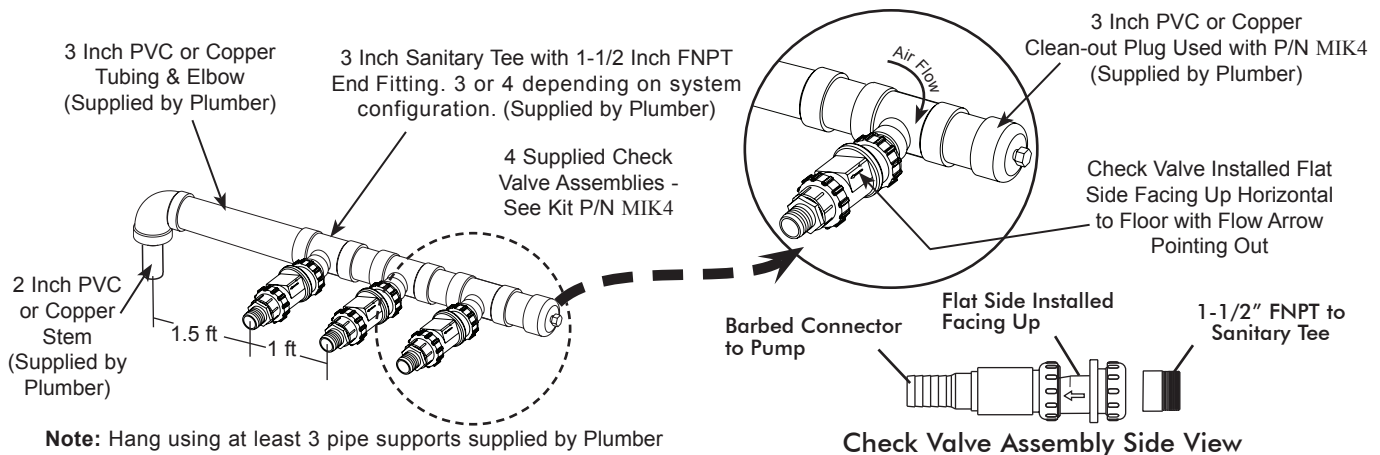

Figure 11. Pump/Tank Connection Manifold Fabrication
Installation Accessory Packs. Figure 11 shows the hose connections required for 3V5 and 4V5 **MOJAVE** system configuration installations using accessory packs that provide the required hoses, clamps and adapters as follows:
7. Using at least 3 pipe supports, hang the Pump/Tank Connection Manifold. See Figure 11.